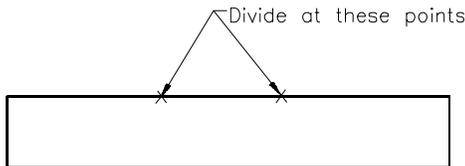

Figure 2-34 Points to be selected to divide
1. Choose the **Rectangle** option from the **GEOMETRY** submenu in the **Menu Manager**. Draw a rectangle as shown in Figure 2-34.
3. Select points on the top line as shown in Figure 2-34 to divide.